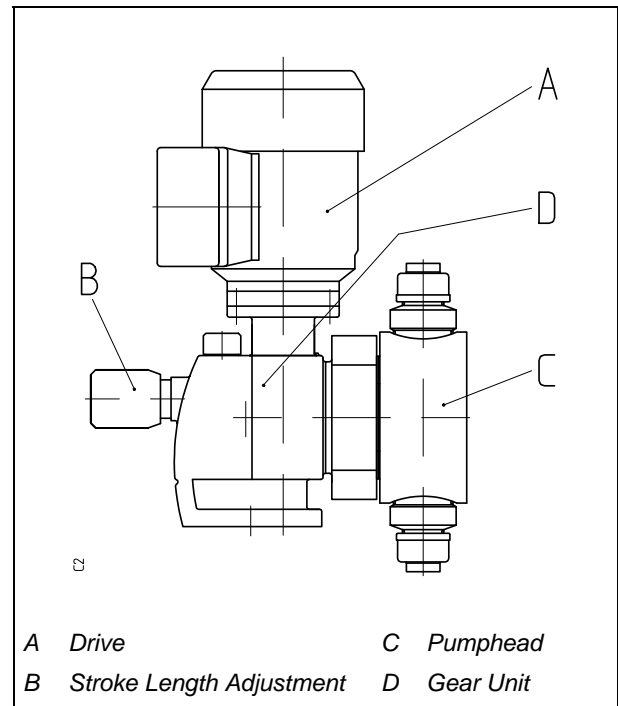

Fig. 2.1: Metering Pump
The metering pump is a reciprocating positive displacement pump. Basic components are the drive (A), the stroke length adjustment (B), the pumphead (C), and the gear unit (D) (Fig. 2.1).